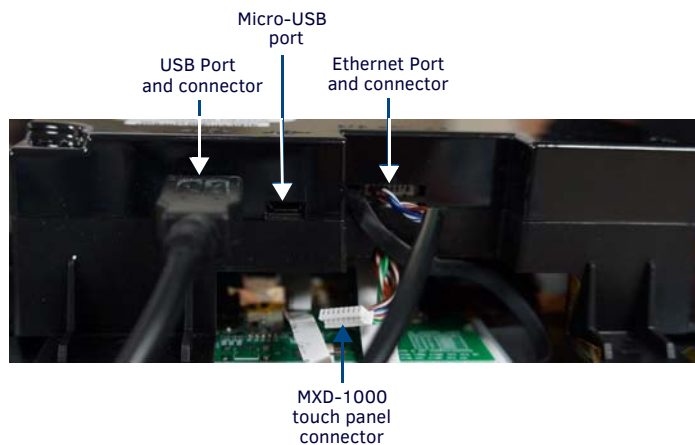

FIG. 5 MXD-1000 TOUCH PANEL CONNECTIONS
Carefully unplug the touch panel's connector from its port. With the touch screen facing you, the connector is located to the right of the Micro-USB port (FIG. 5) on both the MXD-1000 and the MXD-700.
5. With the touch panel still outside of the back box, insert the USB connector into the touch panel's USB port (FIG. 5).